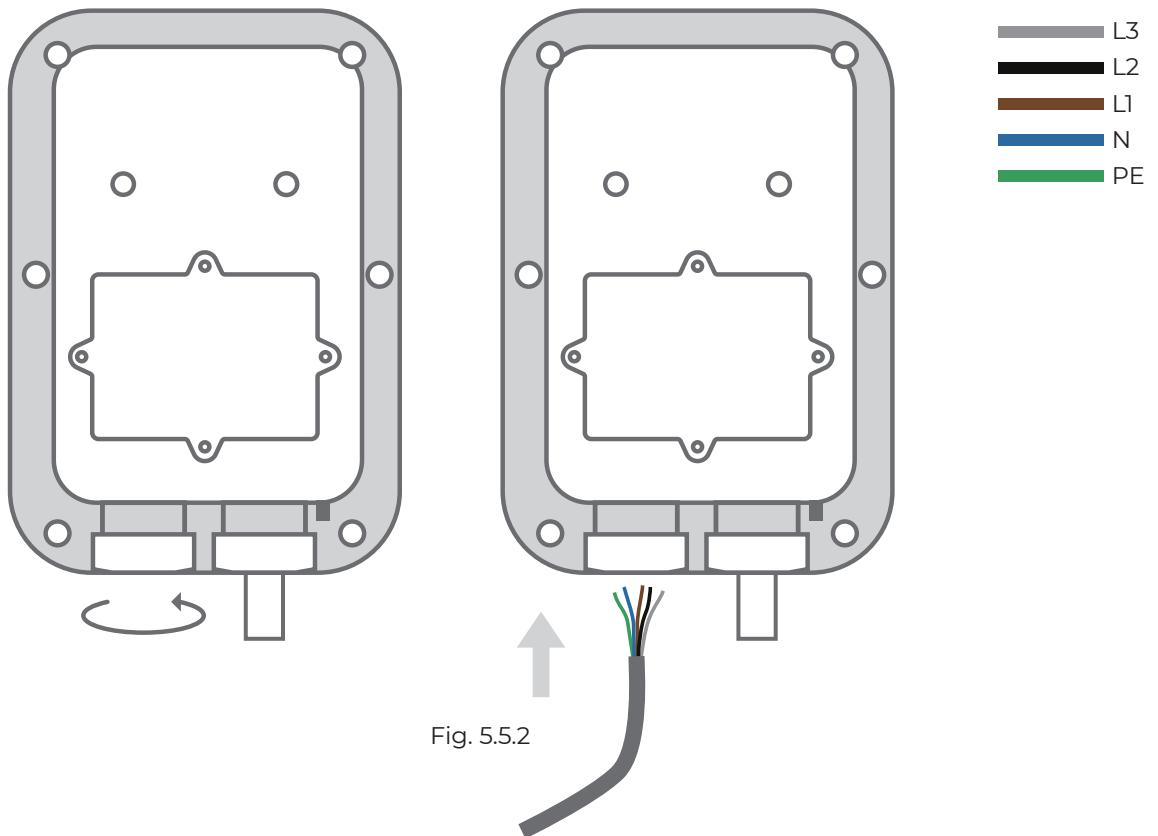

Fig. 5.5.2
2. Unscrew the gland at the bottom of the charging station. Pass the prepared power cable through it. (See Fig. 5.5.2)